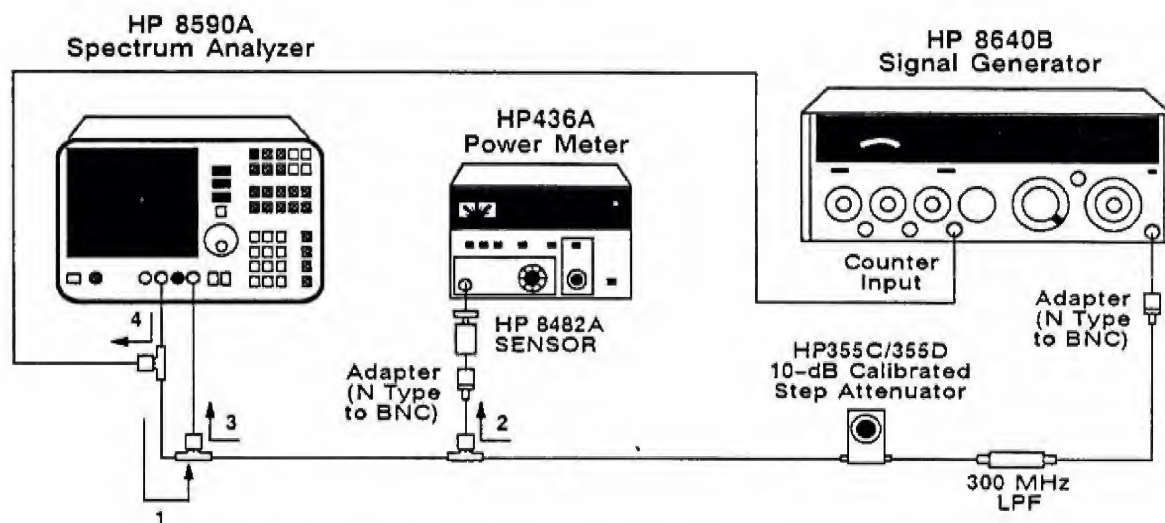

Figure 2-2. Third Converter LO and CAL Output Adjustment
3. Connect the equipment as shown in Figure 2-2. Connect the analyzer CAL output to the RF input jack.
7. Connect the signal generator through a 300-MHz LPF to the calibrated step attenuator. Set the step attenuator to 20 dB. Connect the power meter input to the other side of the attenuator, as shown in Figure 2-2.